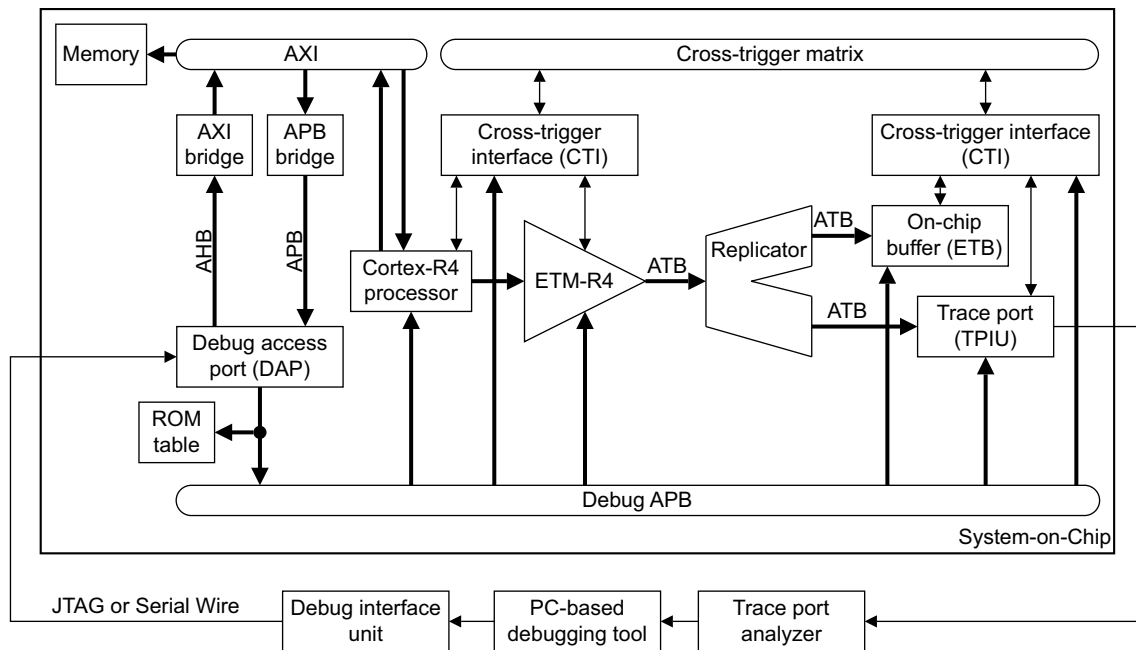

Figure 1-1 ETM-R4 system diagram
- Export the trace information through a trace port. An external *Trace Port Analyzer* (TPA) captures the trace information as Figure 1-1 on page 1-4 shows.
- Write the trace information directly to an on-chip *Embedded Trace Buffer* (ETB). You can read out the trace at low speed using a JTAG or Serial Wire interface when the trace capture is complete as Figure 1-1 on page 1-4 shows.
Figure 1-1 on page 1-4 shows how the ETM-R4 fits into a CoreSight debug environment to provide full trace capabilities in a single processor system. The external debug software configures the trace and debug components through the DAP. The ROM table contains a unique identification code for the SoC and the base addresses of the components connected to the debug APB. The trace stream from the ETM-R4 is replicated to provide on-chip storage using the CoreSight ETB or output off-chip using the TPIU. Cross-triggering operates through the CTIs and the cross-trigger matrix.
In Figure 1-1, the arrows on the thick lines show the transaction direction on busses, from master to slave port. Each bus contains individual signals that go from master to slave and other signals that go from slave to master.